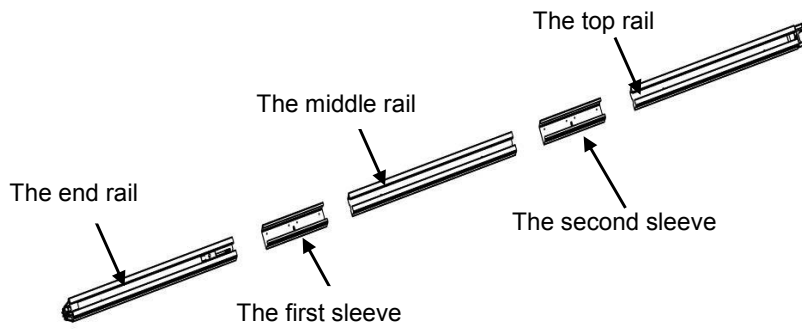

Fig. 6
2. As Fig.6, slide the 2nd sleeve to the other end of middle rail, slide the top rail into the 2nd sleeve;